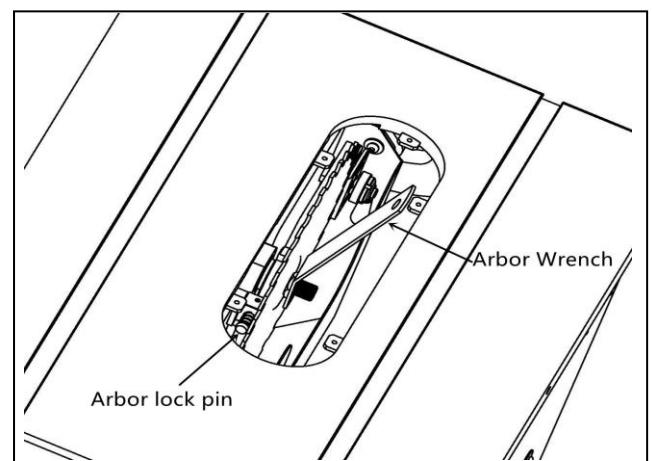

Fig. 15
4. Press the arbor lock pin, and use the included wrench to tighten the arbor nut refer to Fig. 15.